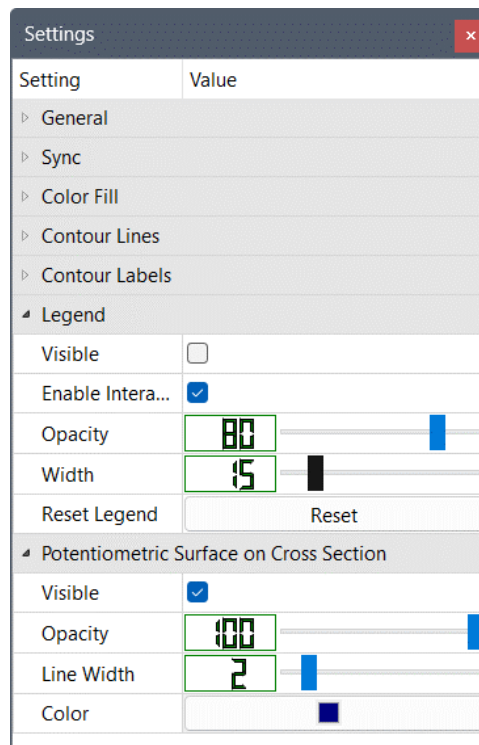

Figure 164. The Legend and Potentiometric Surface on Cross Section groups of the Settings window for Contour Maps
6. Legend (Figure 164)
- ## 7. Potentiometric Surface on Cross Section (Figure 164).